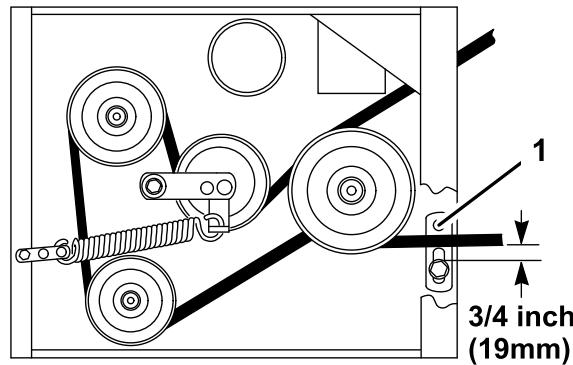

Figure 48
8. Check the belt guide under the engine frame for proper adjustment (Figure 48).
Note: When the mower belt is engaged, ensure that the distance between the belt guide and the mower belt is 19 mm (3/4 inch) (Figure 48). Adjust the mower belt guide as necessary. The disengaged belt should not drag or fall off the pulley when the guides are properly adjusted.